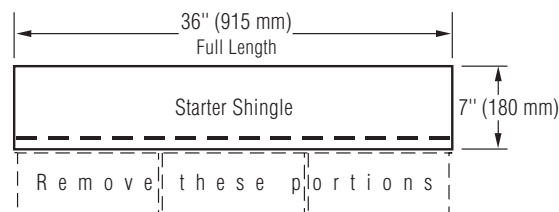

Figure 10-6: Make starter shingles by removing the lower 5" tabs.
1. Use CertainTeed SwiftStart® or a starter course consisting of the shingles from which the lower 5" tabs have been removed (Figure 10-6). Remember, the sealant on starter courses should lie as close as possible to the eaves edge of the roof.
1. Use CertainTeed Swiftstart® or a starter course consisting of the shingles from which the lower 5" tabs have been removed (Figure 10-6). Remember, the sealant on starter courses should lay as close as possible to the eaves edge of the roof.